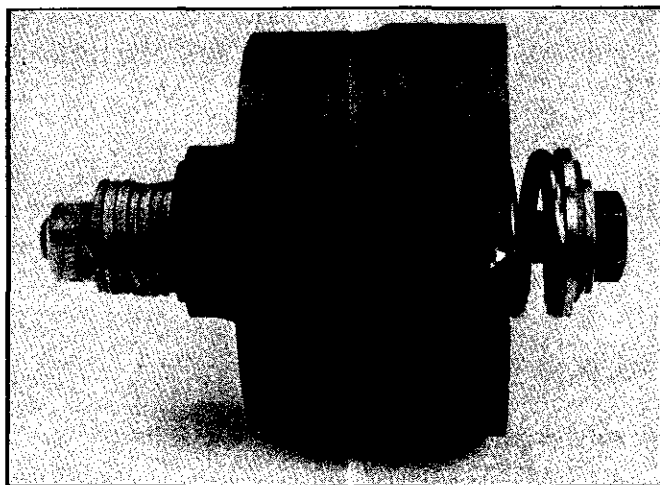

Figure 14. Cylinder Block Subassembly Disassembly Tool. (Tighten nut, remove snap ring, loosen nut to relieve spring tension.)
The spring located within the cylinder block S/A is under a high tension and can cause bodily harm if the retaining ring is removed. See Figure 14 for disassembly instructions.
- a. Assemble the spring, two washers and retaining ring into the cylinder block. The washer with three notches is assembled next to retaining ring. See Figure 14 for instructions. Set the cylinder block S/A (40) face on a flat clean surface. Use Kraft paper between the block and surface to prevent scratching the cylinder block face.
- b. Install pin retainer (46) into cylinder block. Position the pin retainer approximately $\frac{1}{4}$ " below the surface, and orient the open end of the pin retainer to be away from the large spline openings.
- c. Slide the three pins (45) into cylinder block S/A (40) until they bottom against the spring washer within the block.
- d. Place spherical washer (47) on top of the three pins; then install shoe plate (48) with nine piston and shoe subassemblies (49) over spherical washer (47) and into cylinder block. Wobble shoe plate (48) to make sure that each piston is free within its bore in the cylinder block.
- e. Set housing (33) on its side and hold pump shaft (55) horizontal. Slide rotating group into the housing. Rotate the shaft to match the shaft splines to the cylinder block and spherical washer.
- 5. If alignment pins (37) were removed, install two alignment rollpins (37) into housing (33). Place gasket (36) over the rollpins, cover with Kraft paper and set aside for final assembly.